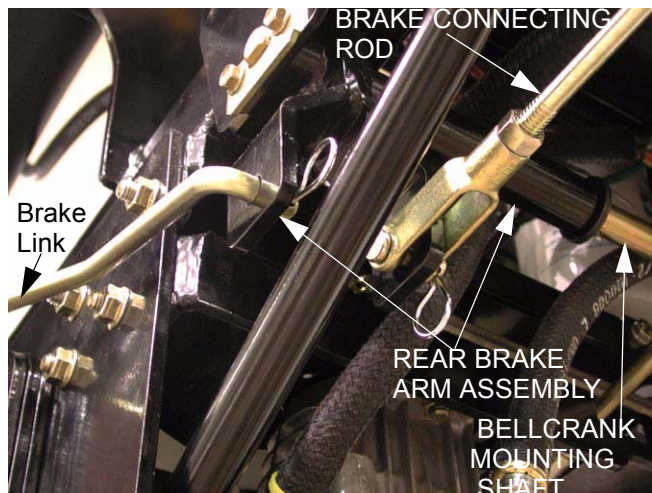

Figure 3.5
- 3.5. For complete brake adjustment procedures, refer to the "Brake Adjustment" section of this manual. For the purpose of tracking, insure that the brake linkage bellcranks and rods are well lubricated, not damaged, and work as intended. See Figure 3.5.